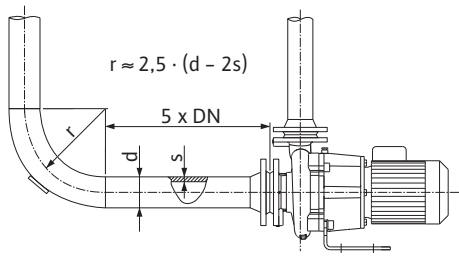
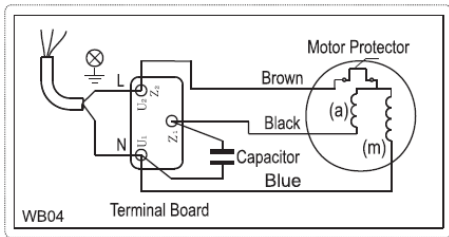

Fig. 4: Settling section upstream and downstream of the pump
Fig. 5: Alternating current
- The mains connection depends on the motor power  $P_2$ , mains voltage and activation type. Refer to the following table and Fig. 4 and Fig. 5 for the required connection of the connecting bridges in the terminal box.